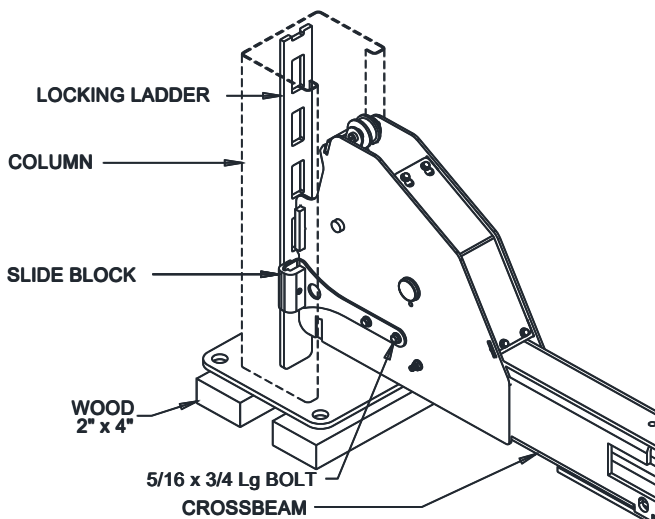

Fig 15 – Slide Block Installation
- 20) Slide power side column onto crossbeam until the end of the crossbeam is approximately one inch from the back of the column. Position slide blocks as shown in **Fig 15** and attach with 5/16-18 x 3/4" bolts. Lift the column and place on wood 2" x 4"s.